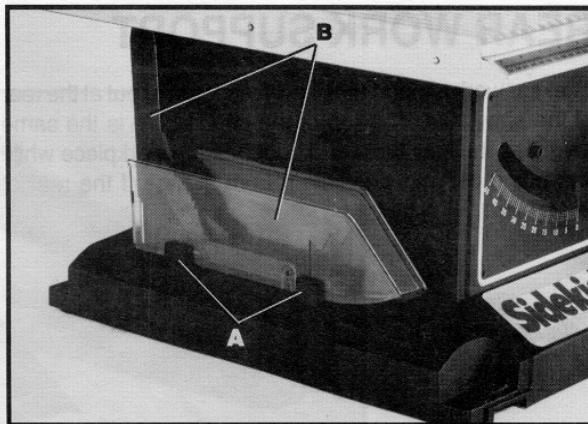

Fig. 43
1. Fig. 43, illustrates clips (A) provided on the left side of the saw cabinet for storing the blade guard (B).